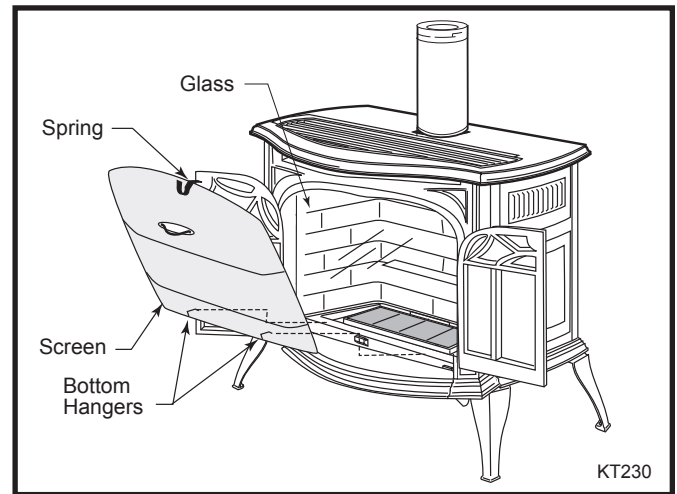

Fig. 42 Hold screen at an angle to attach bottom hangers.
2. With the doors open, hold the screen at an angle with the bottom hanger toward the inside. (Fig. 42)